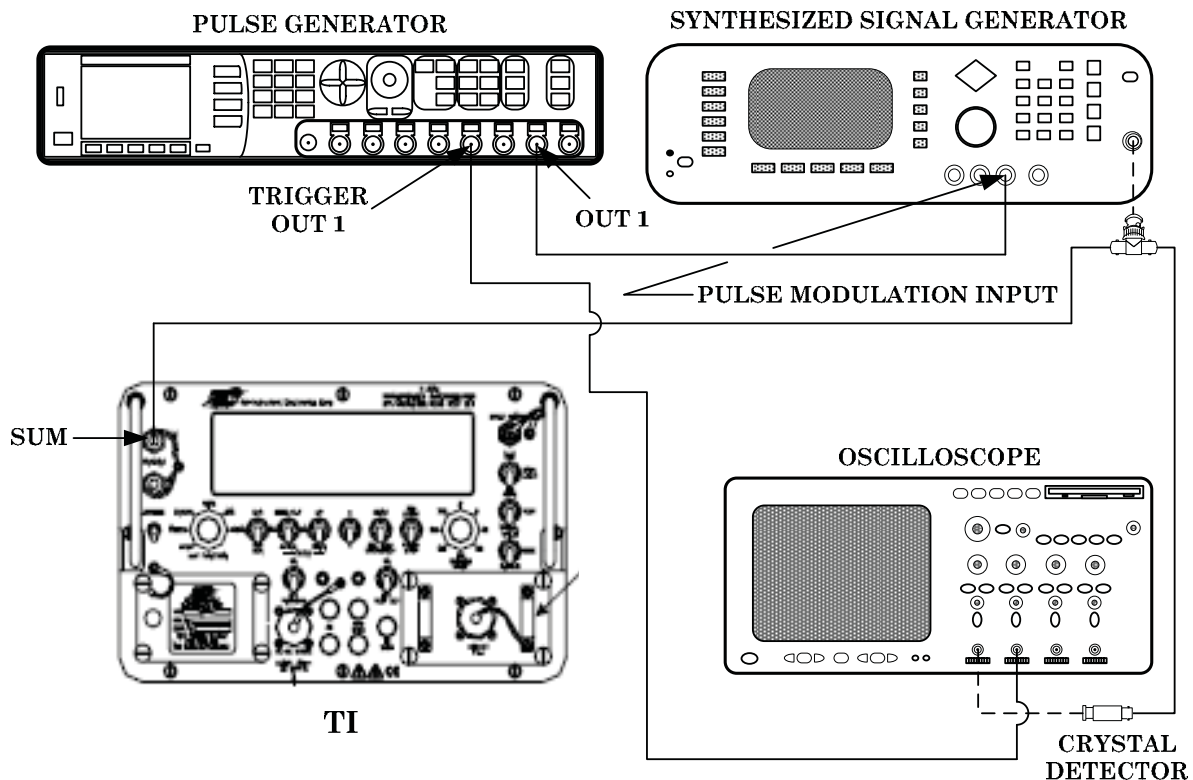

Figure 1. Equipment connection.
(1) Connect equipment as shown in figure 1.